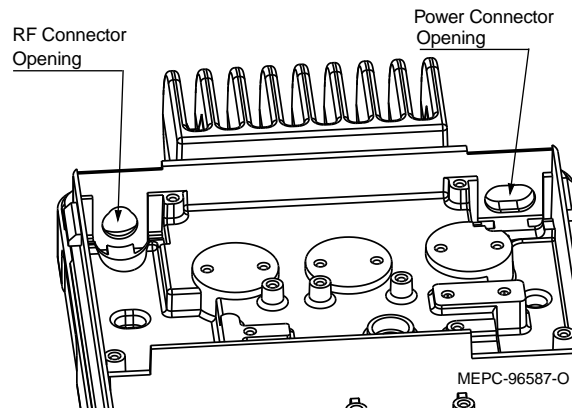

Figure 2-1 RF and Power Connector Openings
2. Place new connector (either Power or RF) in opening in chassis (See Figure 2-1.). Connector Part Numbers can be found in Chapter 10.